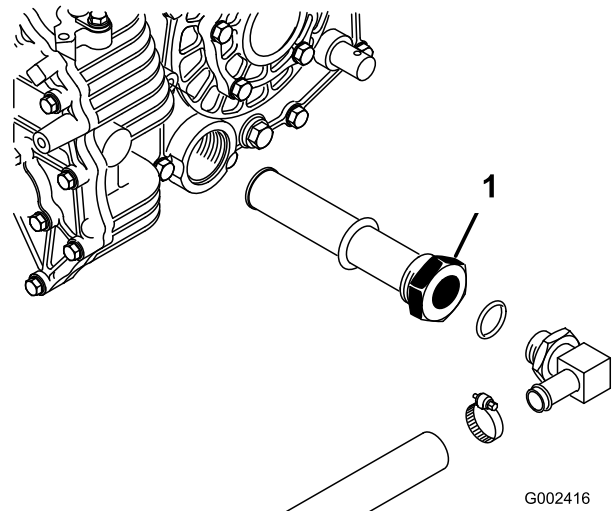

Figure 66
3. Note the orientation of the hydraulic hose and 90° fitting connected to the strainer on the side of the reservoir (Figure 66).